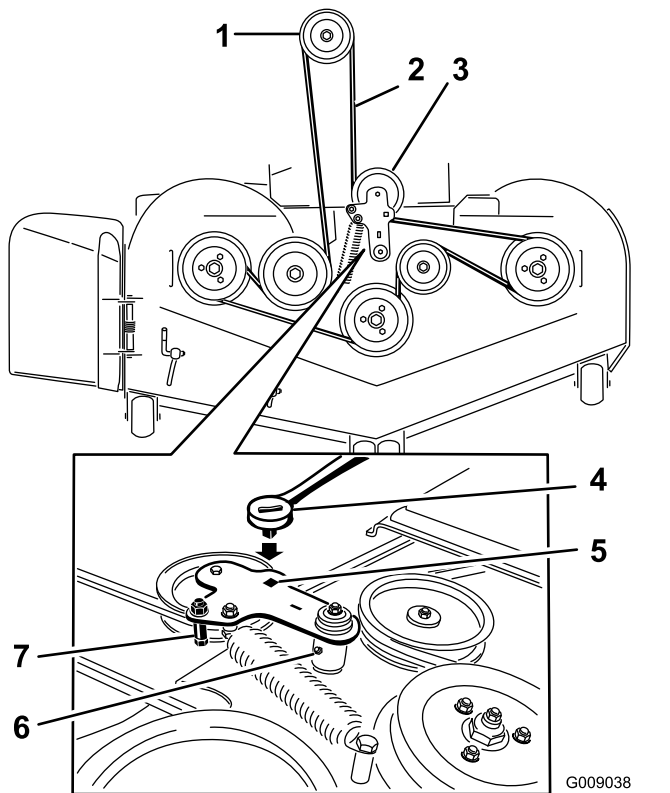

Figure 93
5. Use a ratchet in the square hole in the idler arm to remove tension on the idler spring (Figure 93).
7. Remove the belt guide on the spring-loaded idler arm (Figure 93).
9. Install the new belt around the mower pulleys and the clutch pulley under the engine (Figure 93).
10. Install the belt guide on the idler arm (Figure 93).
11. Using the ratchet in the square hole, install the idler spring (Figure 93).